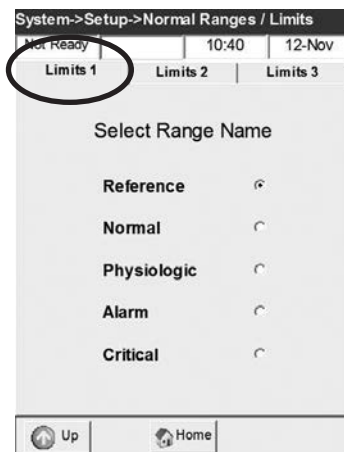

Fig. 3-22 Select Limits Name
3. On the **<Limits 1>** tab, select the limits range name you wish to use (Fig. 3-22):